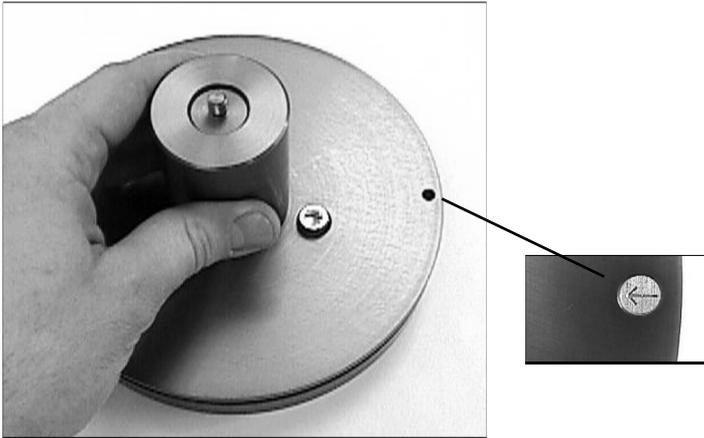

Fig. 6:
4. Verify the arrow is visible through the small hole as shown in Fig. 6.